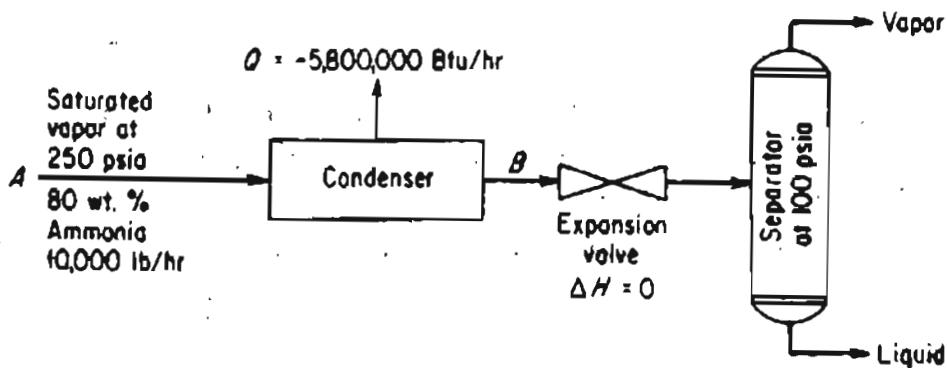

Figure P28.15
- 28.15* A mixture of ammonia and water in the vapor phase, saturated at 250 psia and containing 80% by weight ammonia, is passed through a condenser at a rate of 10,000 lb/hr. Heat is removed from the mixture at the rate of 5,800,000 Btu/hr while the mixture passes through a cooler. The mixture is then expanded to a pressure of 100 psia and passes into a separator. A flow sheet of the process is given Fig. P28.15. If the heat loss from the equipment to the surroundings is neglected, determine the composition of the liquid leaving the separator by material and energy balances.